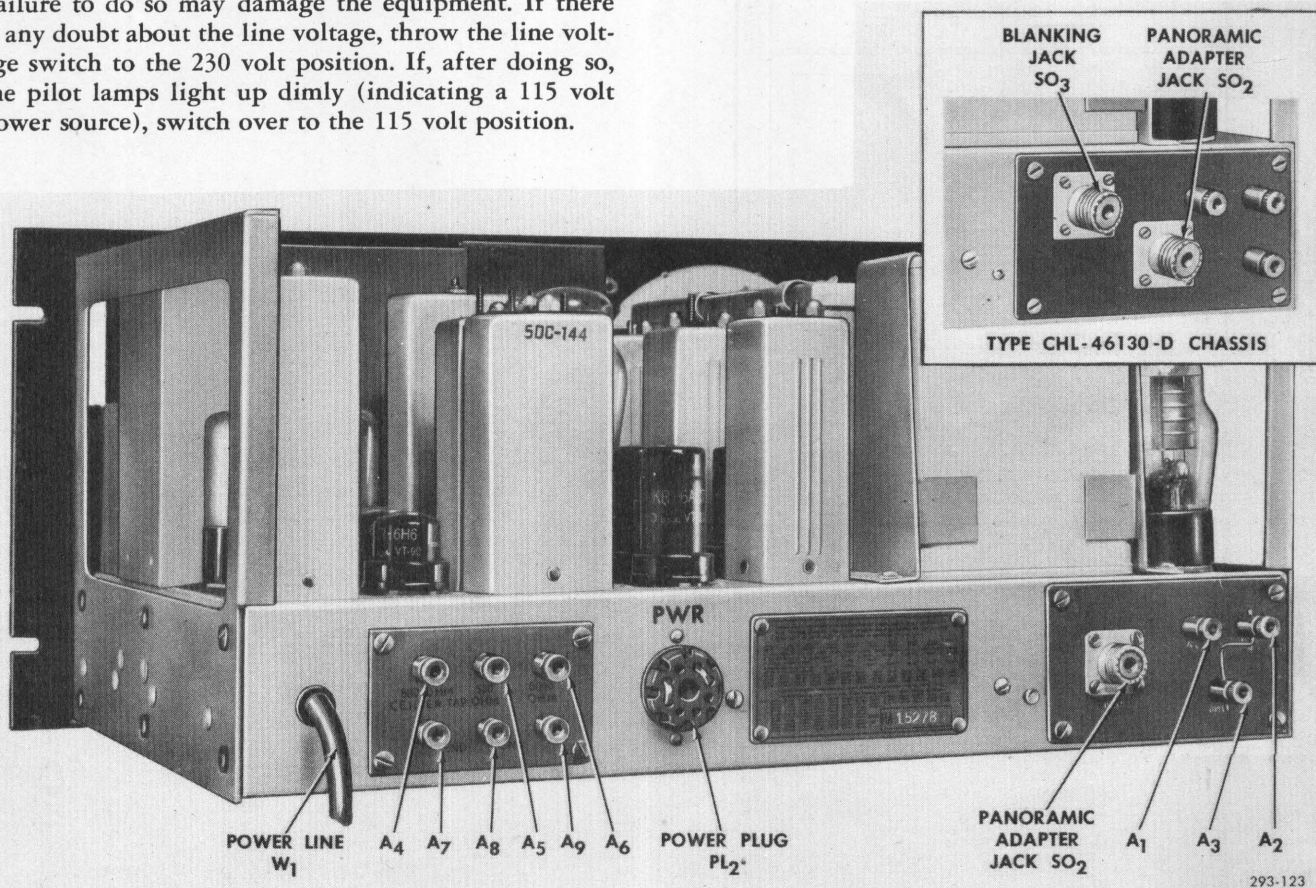

Figure 3-2; Type CHL-46130-C Chassis, Rear View.
(1) HEADSET OPERATION.—The headset jack marked "PHONES," located on the front panel, provides a 600 ohm balanced output. The center tap of the 600 ohm headset winding is grounded externally at the speaker output terminal board TS1 by a jumper wire across the terminal marked 600 C.T. If it is desirable to disconnect the center tap from ground, remove the jumper from the terminal board TS1. (Refer to Figure 3-2.)
(2) SPEAKER OPERATION.—The two sets of speaker terminals located on the rear chassis apron, provide for coupling into lines of 500 and 5000 ohms